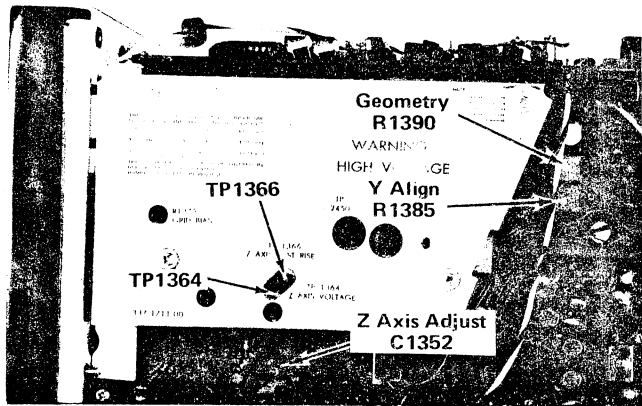

Fig. 5-4. Location of Y-Axis Align, Z-Axis, and Geometry adjustments and test point.
Page 5-27 Step 7a, Fig. 5-4, and Step 7d
- Fig. 5-4: See accompanying photo for correct TP1366 location.